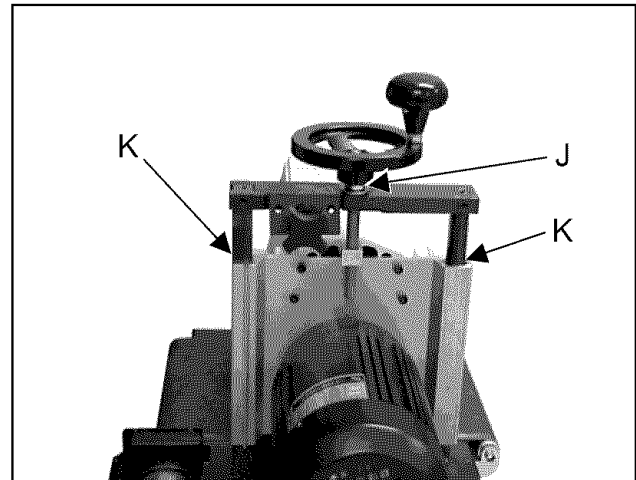

Figure 21
1. To reduce the handwheel backlash, tighten the locknut on the height adjustment screw (Figure 21, Item J).
2. Thoroughly lubricate all mating surfaces and height adjustment screw (Figure 21, Item K).